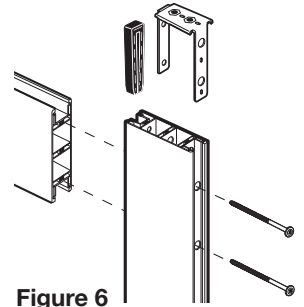

Figure 6
Place 2 of the 4" screws into the 2 holes in the outside of the Stile channel. Make sure they are fully inserted. Slide a reinforcement clip (D) into the channel and over the screws shafts. See Figure 6.